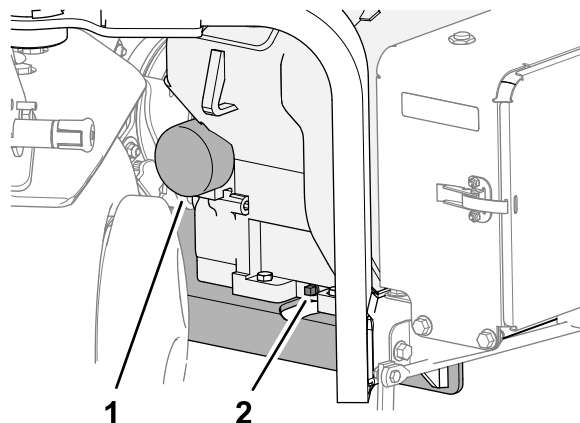

Figure 150
3. Place a pan below the oil-drain plug, and remove the plug (Figure 150).
1. Place a shallow pan under the oil filter, and remove the filter (Figure 150).
6. Thread the oil filter onto the filter adapter until the gasket contacts the filter adapter (Figure 150), then tighten the filter an additional 1/2 turn.